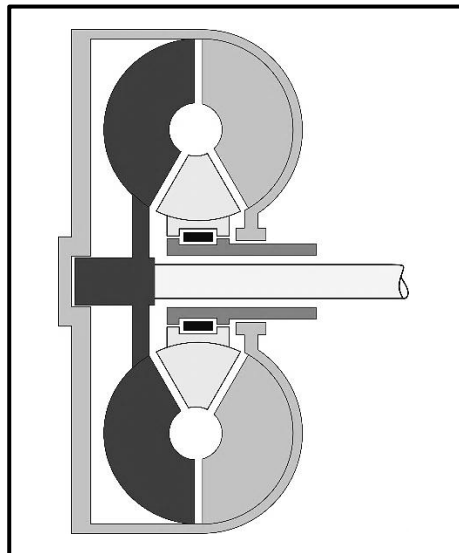

FIGURE 9.2
9.2 FIGURE 9.2 below shows a torque converter.